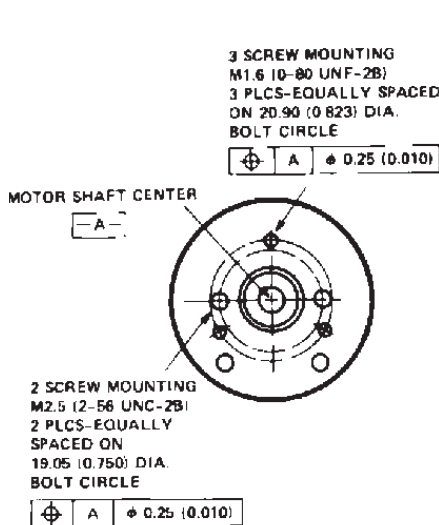
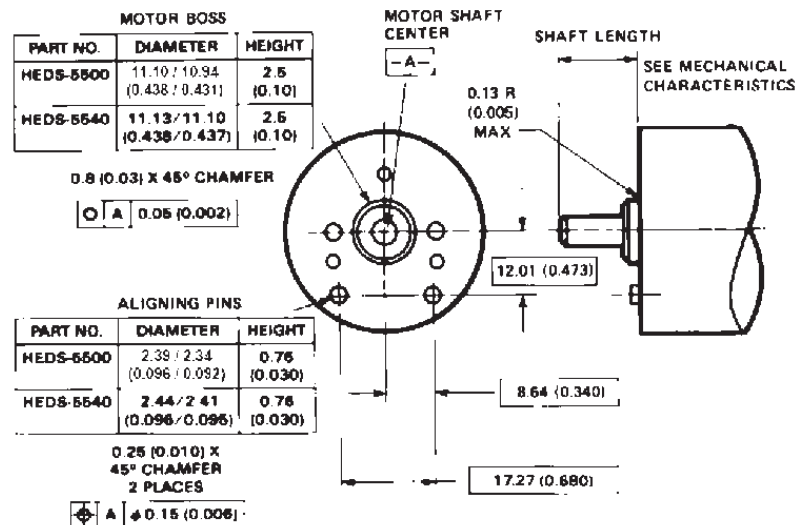

Figure 2. Mounting Holes.
Figure 3. Optional Mounting Aids.
- The HEDS-5540 and 5640 must be aligned using the aligning pins as specified in Figure 3, or using the alignment tool as shown in "Encoder Mounting and Assembly". See also "Mounting Considerations."
The HEDS-5540 and 5640 three channel encoders and the HEDM Series high resolution encoders must be aligned using the aligning pins as specified in Figure 3, or using the HEDS-8910 Alignment Tool as shown in Encoder Mounting and Assembly.
The use of aligning pins or alignment tool is recommended but not required to mount the HEDS-5500 and 5600. If these two channel encoders are attached to a motor with the screw sizes and mounting tolerances specified in the mechanical characteristics section without any additional mounting bosses, the encoder output errors will be within the maximums specified in the encoding characteristics section. The HEDS-5500 and 5540 can be mounted to a motor using either the two screw or three screw mounting option as shown in Figure 2. The optional aligning pins shown in Figure 3 can be used with either mounting option. The HEDS-5600, 5640, and HEDM-5600 have external mounting ears which may be used for mounting to larger motor base plates. Figure 4 shows the necessary mounting holes with optional aligning pins and motor boss.